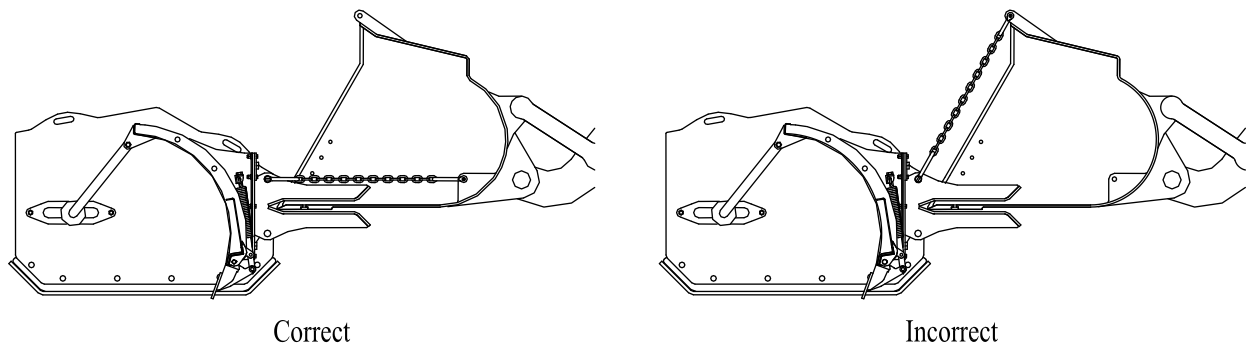
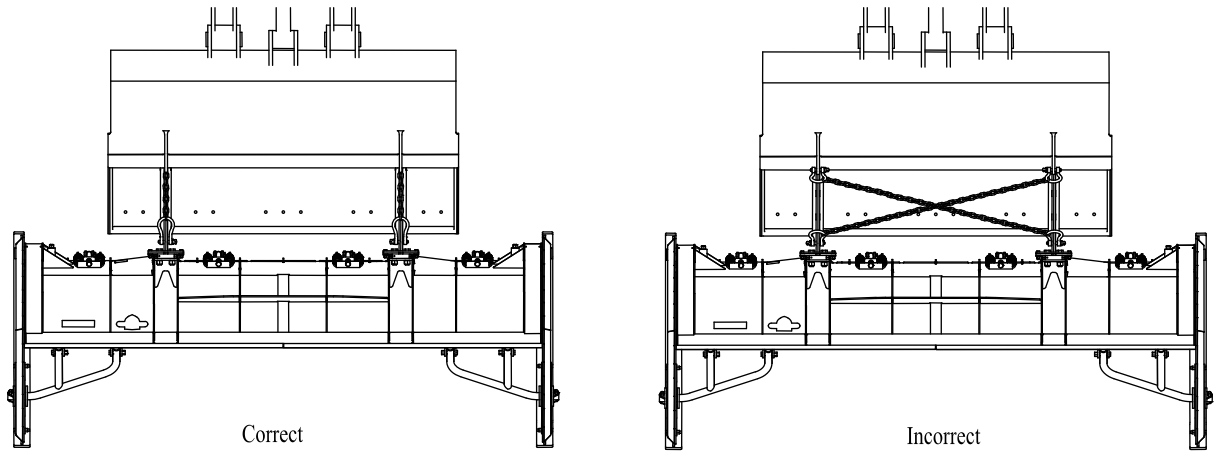

Figure 6. Proper Tab Placement
Figure 7. Proper Chain Placement
- Tabs for mounting chains should be located in such a manner that the chain is level when the plow is attached. See Figure 6. The tabs should also be located in line with the hitch forks. See Figure 7.
4. Loop chain through hole in hitch fork and bucket mounting tab or clevis; then use ratcheting binder to secure loose ends of chain. Do not cross chains as the slip hitch assembly will bind. See figure 7.